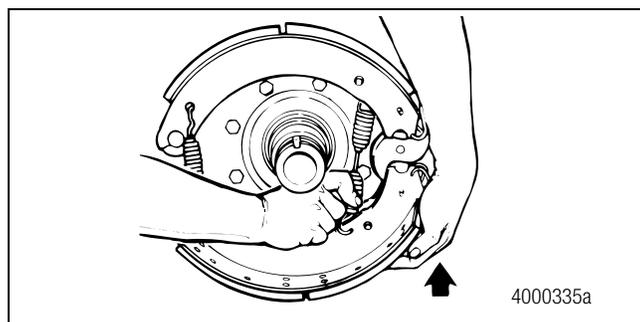

Figure 3.2
3. Lift the bottom shoe to release the tension on the brake shoe return spring. Figure 3.2.